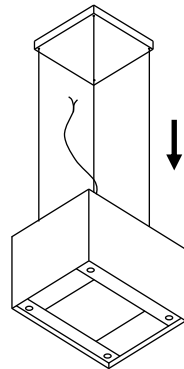

Fig 12
10. Unscrew the ceiling cover and pull down (Fig 12).